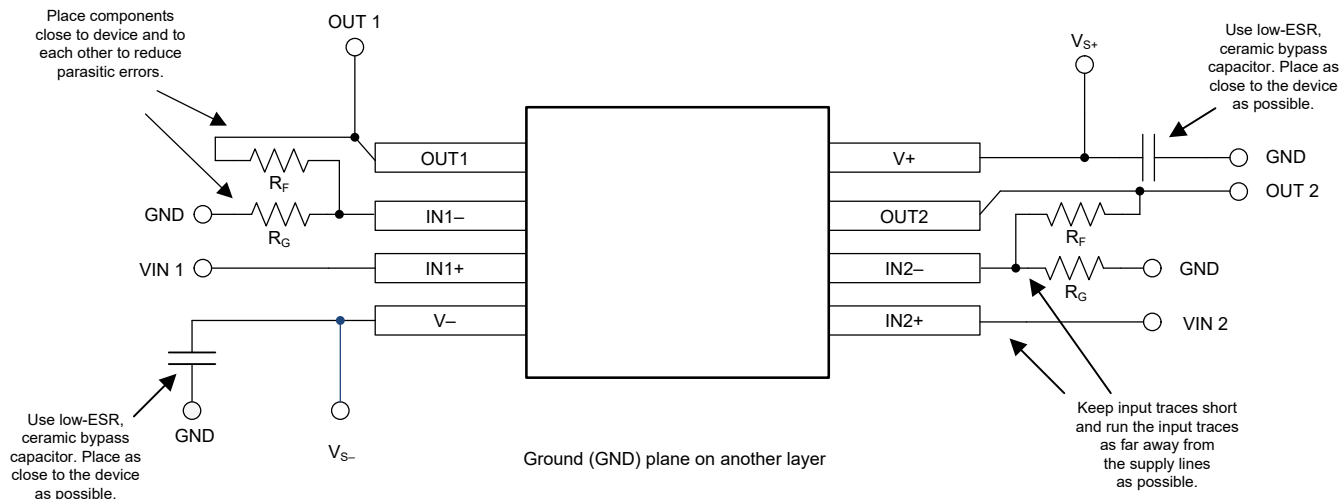

図 7-4. Operational Amplifier Board Layout for Noninverting Configuration
- Place the external components as close to the device as possible. As illustrated in Figure 7-4, keeping RF and RG close to the inverting input minimizes parasitic capacitance.